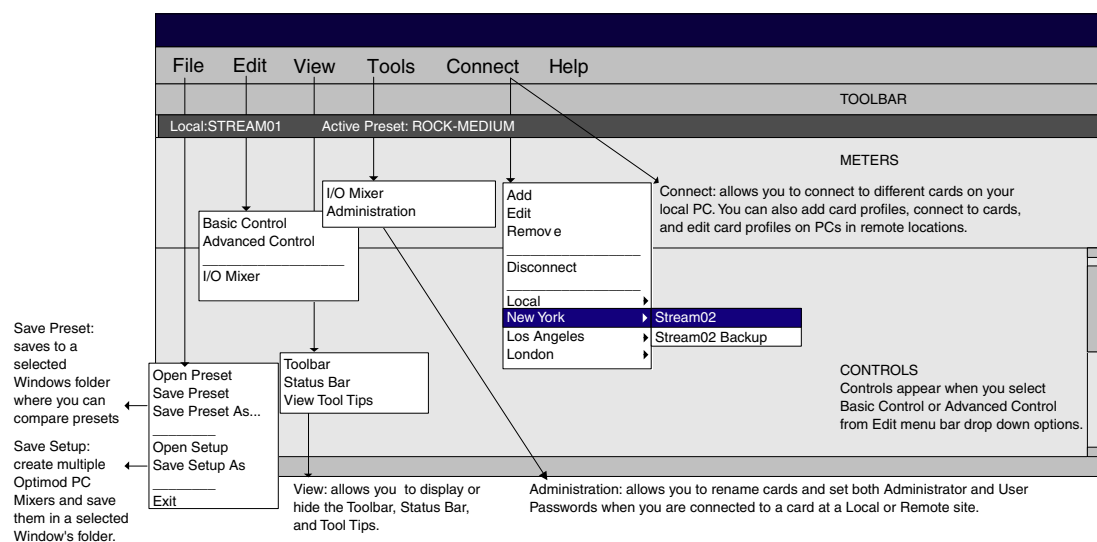

Figure 2-4: The Orban Control Application
- A) Start the Optimod-PC control application, *Optimod.exe*, by clicking its icon ("agent") in your computer's system tray, or from Start > Programs > Orban > Optimod-PC. (See Figure 2-4 on page 2-6.)